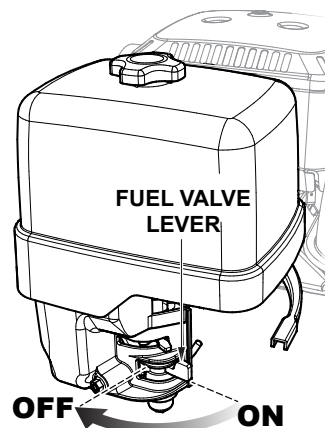

Figure 28. Fuel Shut-Off Lever (OFF)
3. Place fuel shut-off lever (Figure 28) in the **OFF** position.